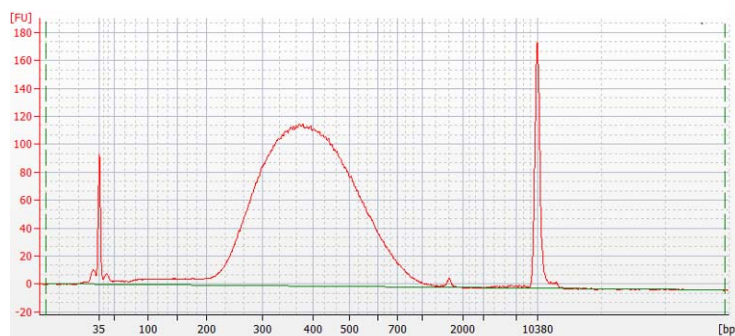
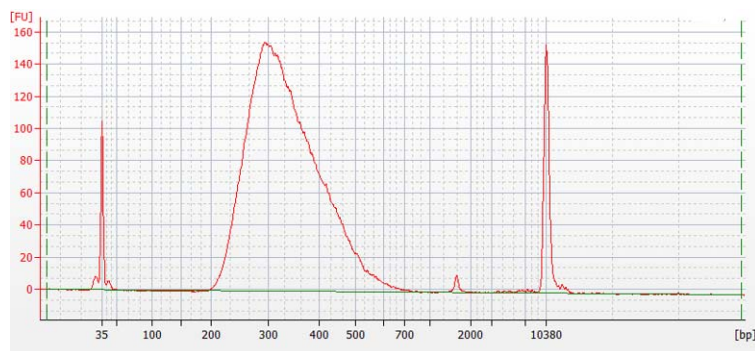
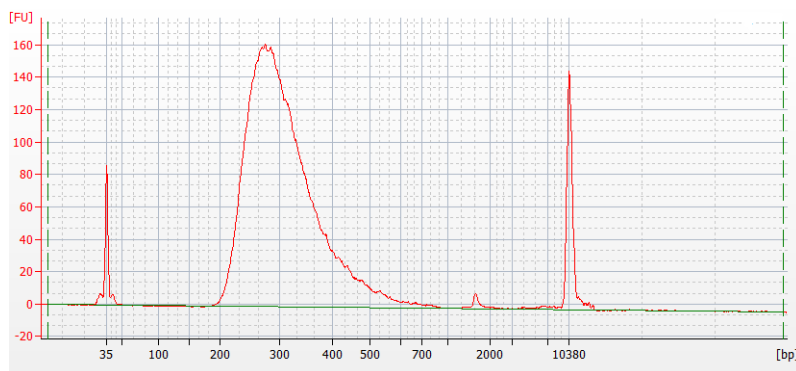

Figure 8 Post-capture library prepared from a high-quality gDNA sample analyzed using a Bioanalyzer system High Sensitivity DNA assay.
Figure 9 Post-capture library prepared from a typical FFPE gDNA sample analyzed using a Bioanalyzer system High Sensitivity DNA assay.
Figure 10 Post-capture library prepared from a low-quality FFPE gDNA sample analyzed using a Bioanalyzer system High Sensitivity DNA assay.
- 4 Verify that the electropherogram shows the peak of DNA fragment size positioned between 200 and 400 bp. Sample electropherograms are shown in Figure 8 (library prepared from high-quality DNA), Figure 9 (library prepared from medium-quality FFPE DNA), and Figure 10 (library prepared from low-quality FFPE DNA).